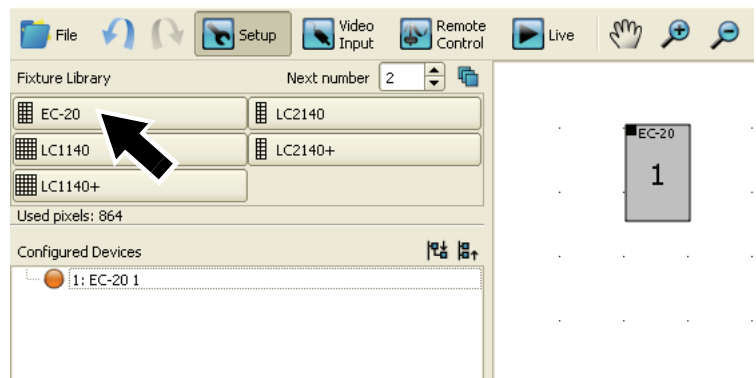

Figure 10: Fixture library in Setup view
3. See Figure 10. Click on the panel type in the **Fixture Library** (arrowed) that corresponds to the panel you want to place in position number 1 in the installation.
5. See Figure 10. The panel will be placed on the canvas in your on-screen installation labelled with display address 1 in the center of the panel icon.